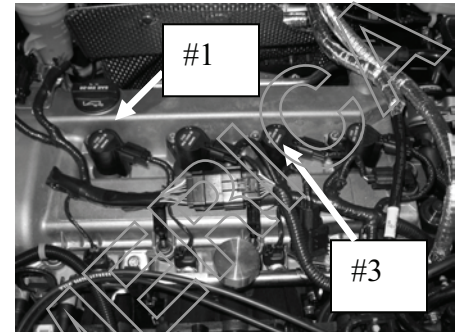
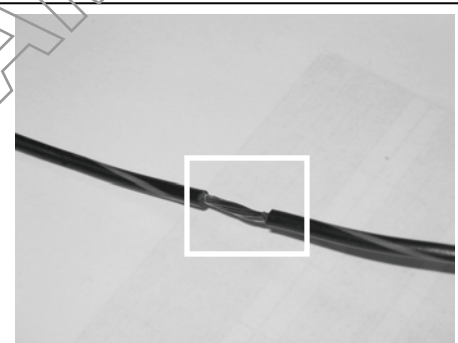

FIGURE 42
FIGURE 43
68. Starting with ignition coil #1 (**FIGURE 42**), choose a point about 2" from the coil connection on the passenger side/front wire and slice the plastic off about 3/4" of that wire (Do not cut the wire), using wire strippers to cut the edges of the plastic coating and a razor blade to slice across the plastic (**FIGURE 43**).
69. Strip about 1" off the end of the longer wire from the coil harness (05-1704-B08194) and wrap it around the stripped section of coil wire. (**FIGURE 43**).
71. Repeat steps 20-22 on coil # 3, splicing in the shorter wire from the coil harness (**FIGURE 42**).